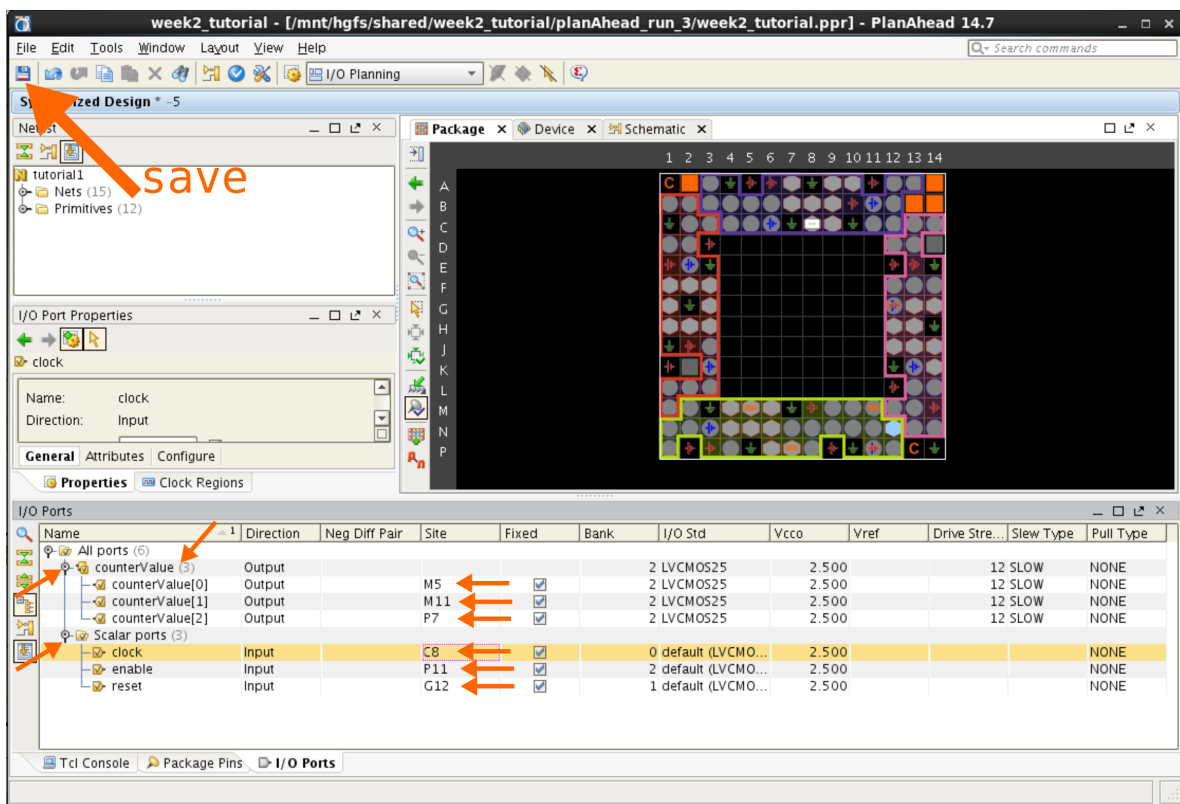

Figure 24: PlanAhead Window
- Repeat this for all ports as shown in the figure 24.